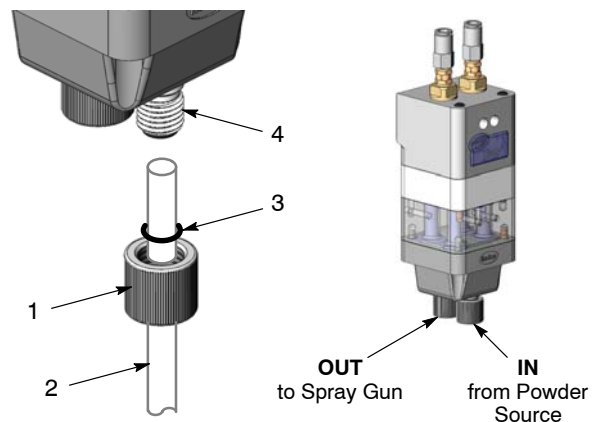

Figure 7 Powder Tubing Installation
1. See Figure 7. Remove a tube retaining nut (1) and O-ring (3) from the pump.
2. Slide the retaining nut over the 8-mm OD, clear powder tubing (2).
4. Push the powder tubing into the wear block (4) until it bottoms out.